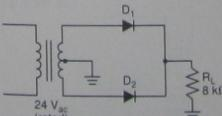

FIGURE 3.54
- Determine the values of $V_{L(\text{pk})}$, V_{ave} , and I_{ave} for the circuit shown in Figure 3.54.
- Determine the PIV of the circuit shown in Figure 3.54.